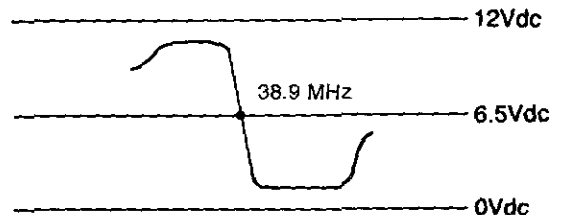

Figure 11
- (1) Change the coupling of the input terminal of the alignment scope from the pin 22 to the pin 17 of P101.
- (2) Adjust the sweep waveform of the alignment scope as shown in figure 11.
- (3) Adjust L104 to place the 39.5 MHz marker at the position or D.C.  $6.5 \text{ V} \pm 0.5 \text{ V}$  as shown in figure 11. At that time the alignment scope must be able to measure D.C. voltage and the AFT switch of the receiver must be located at ON-position. Be sure to adjust after disconnecting C164 from the AFT terminal.